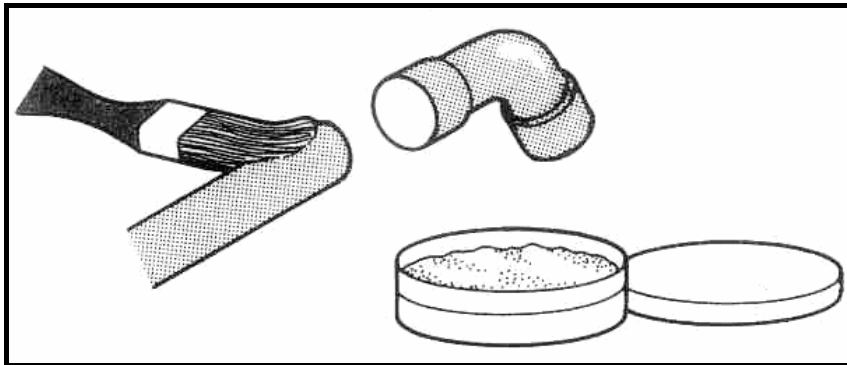

FIGURE 1.1
- D It shields the arc and molten weld pool from atmospheric gases. (1)
- 1.5 Raj has to soft solder a bronze pipe fitting. What step of the soldering process is shown in FIGURE 1.1?